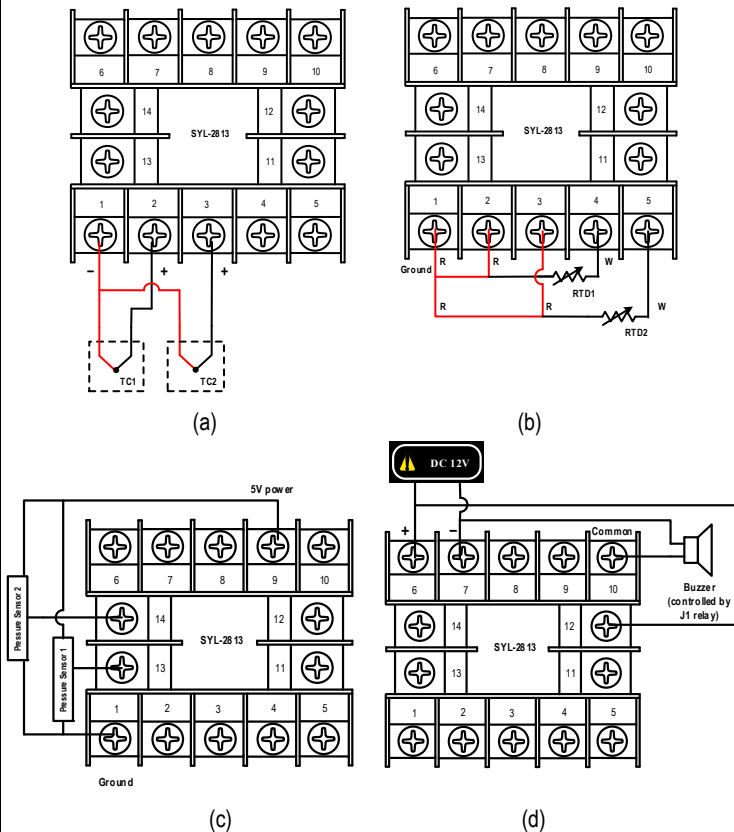

Figure 4. Wiring diagram for (a) thermocouples, (b) RTDs, (c) pressure sensors, and (d) relays.
3. Wiring of Thermocouples (TC). For Channel 1, connect the positive side of the TC to T2, the negative side to T1. For Channel 2, connect the positive side of the TC to T3, the negative side to T1. (See Figure 4(a).)
4. Wiring of Resistance Temperature Detectors (RTD). In Channel 1, for a three wire RTD, connect the two red wires to T1 and T2, connect white wire to T4; for a two wire RTD, connect the red wire to T2, and connect the white wire to T4, and short T1 and T2. In Channel 2, for a three wire RTD, connect the two red wires to T1 and T3, connect white wire to T5; for a two wire RTD, connect the red wire to T3, and connect the white wire to T5, and short T3 and T1. (See Figure 4(b).)
5. Wiring of Pressure Sensors. In Channel 1, connect the power source wire of the sensor to T9, the signal wire of the sensor to T13, and the ground wire of the sensor to T1. In Channel 2, connect the power source wire of the sensor to T9, the signal wire of the sensor to T14, and the ground wire of the sensor to T1. (See Figure 4(c).)
8. Wiring for relay output. J1 and J2 are two normally open relays. T10 is a common pole for both relays. Use T12 and T10 for J1 relay. Use T11 and T10 for J2 relay. (See Figure 4(d).)
display the next parameter on the list (see table 3). Use UP or DOWN key to scroll to the desired parameter (flashing in the upper window) and press SET to view the value. For numerical values, use SHIFT key to go to any digit that needs to be changed and use UP or DOWN key to change the value. For letter values, use UP or DOWN key to select from available values. Then press SET to save and exit to the parameter list. To exit this mode, use UP or DOWN key to scroll to "End" (flashing in the upper display window) and press SET. See Figure 4 for a schematic diagram of how to change Basic Parameters.
The procedure for setting Alarm Parameters is similar to Basic Parameters showed in Figure 4 except the access code is 0001.
The procedure of setting Peak Value Parameters is similar to the Basic Parameters showed in Figure 4 except the access code is 0036.